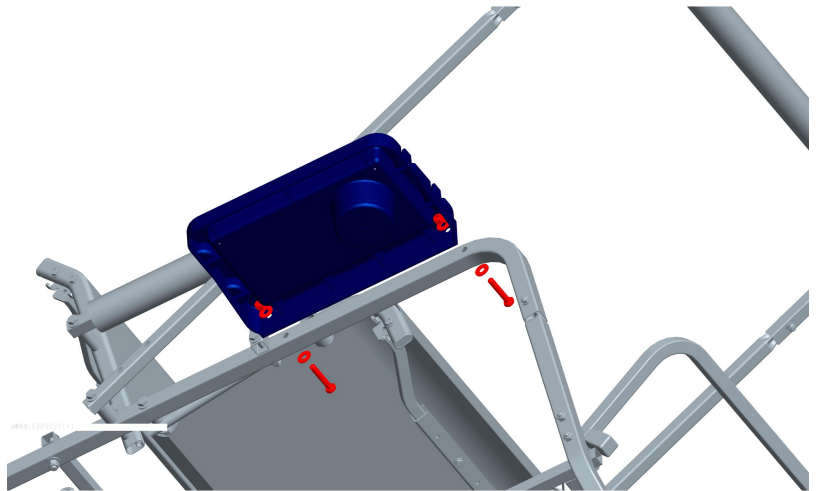

Figure 21
Locate Plastic Shelf (#22). Install the Plastic Shelf(#22) onto the Bending Bar(Either Right or Left Side) using two (2) M8x45 Bolts, four (4) Steel Washers and two (2) Locknuts as shown in Figure 21. Securely tighten bolts.